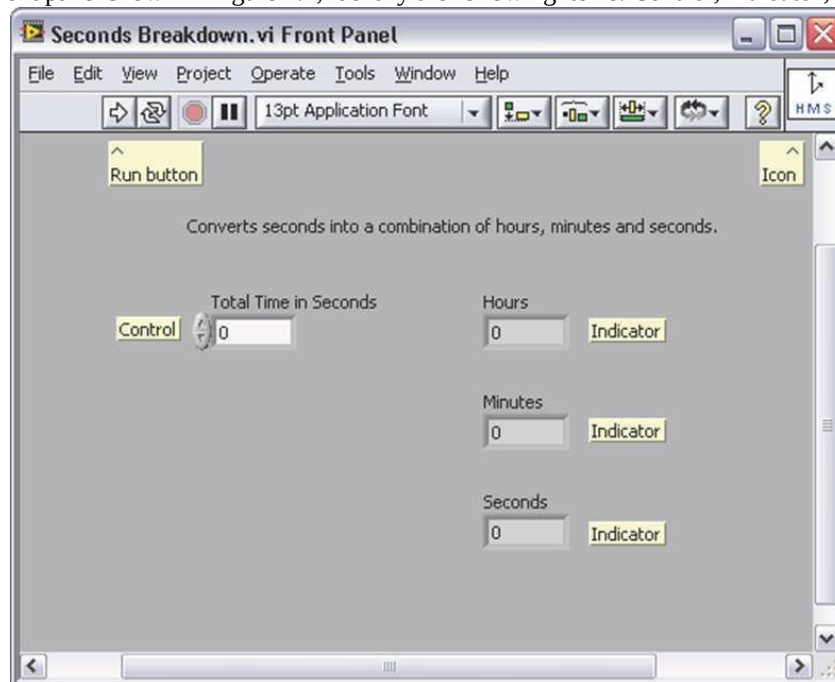

Figure 1.1 Front Panel Items
1. On the front panel shown in Figure 1.1, identify the following items: *Control, Indicator, Run button, and Icon*